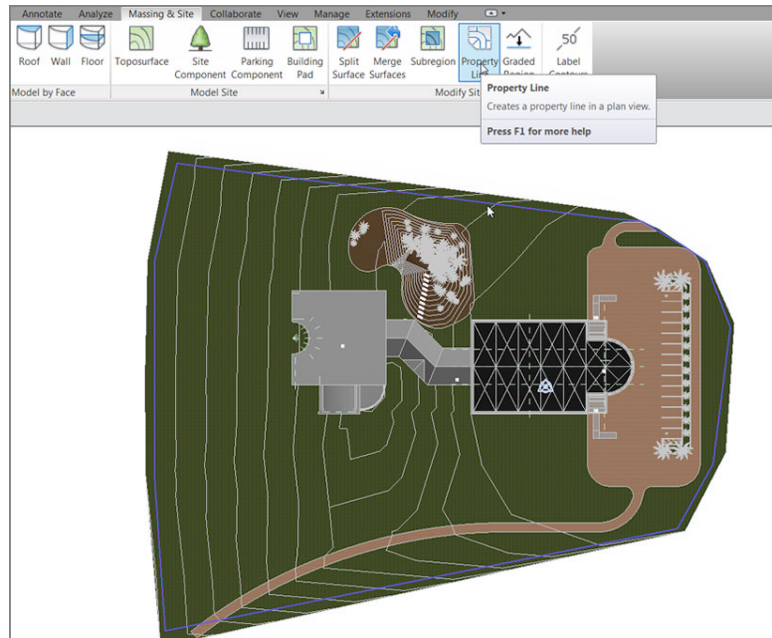

FIGURE 18.22: Adding a property line
2. On the Massing & Site tab, click the Property Line button, as shown in Figure 18.22.
4. Draw a series of lines around the perimeter (see Figure 18.22). Close the sketch by returning to the starting point, but note that you don't have to close a property line.